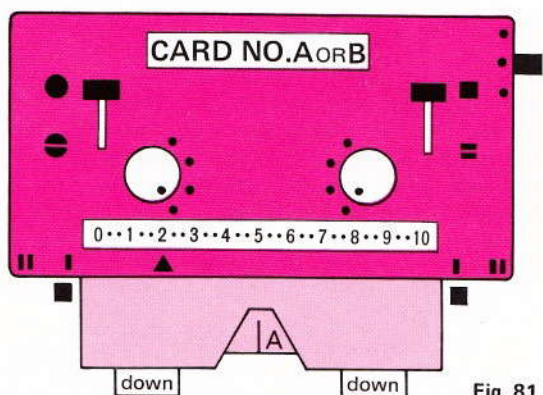

Fig. 81
4. Set carriage as in fig. 81 (both pattern selectors on "tuck"). Knit 35 rows.